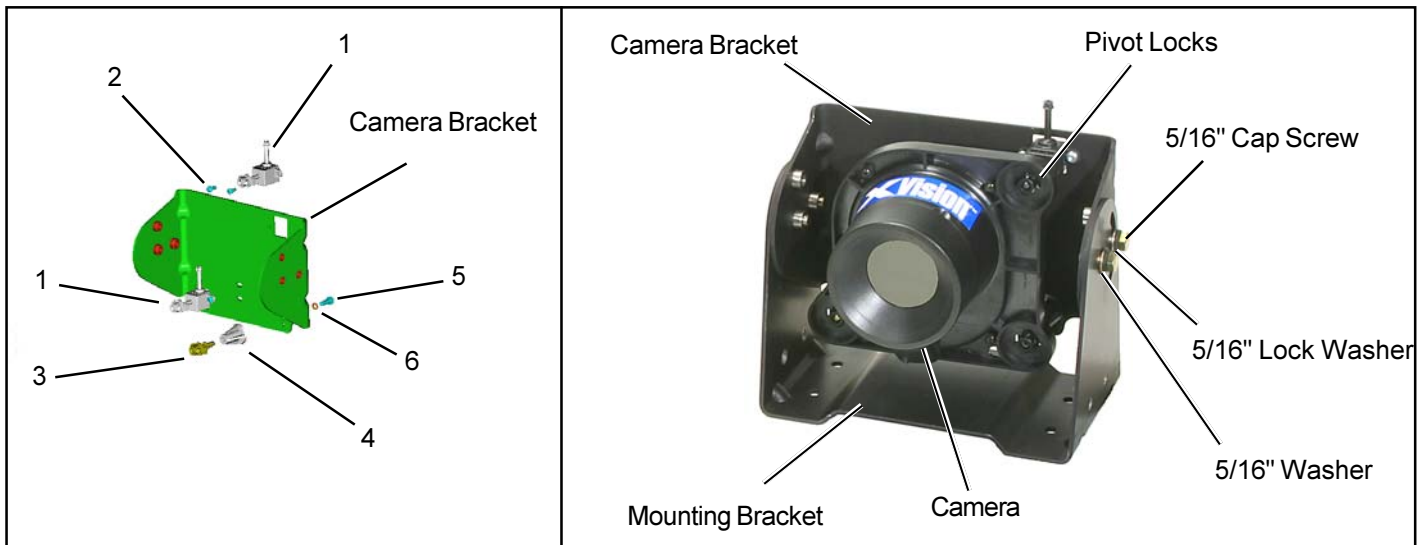

Figure 1 Aiming adjusters and pivot assembly
2. Position the camera onto the aiming assemblies. Refer to Figure 1.